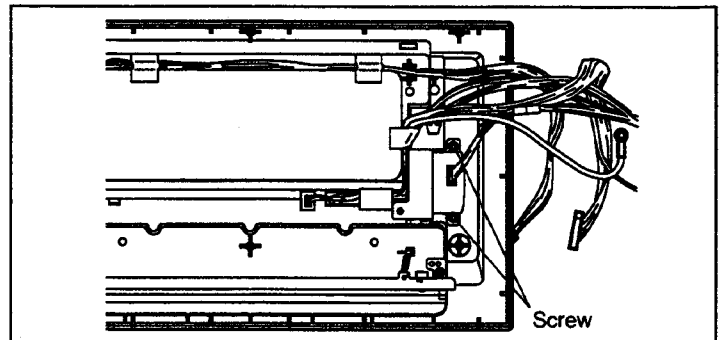

Fig. 5-24
- 4) Remove 2 screws, as shown in Fig. 5-24, and remove the printer motor with the bracket.